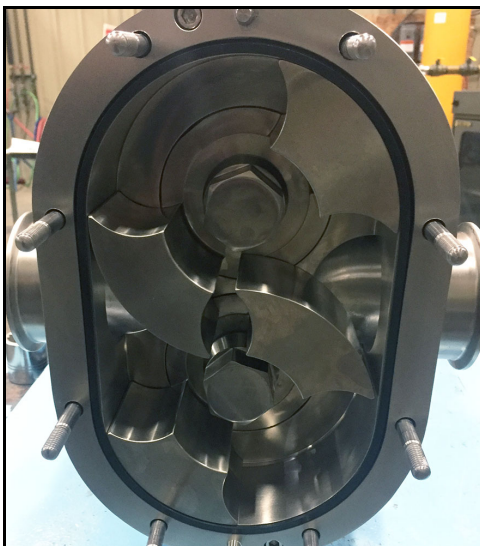

Figure 188 - Cover gasket installed
2. Figure 188 shows the cover gasket installed. Apply an anti-seize compound compatible with the product to the threads of the body studs.